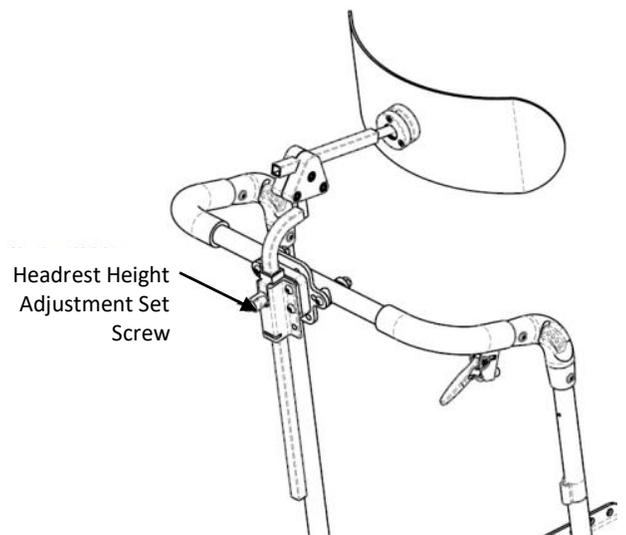

Figure 15.48: Headrest
1. Loosen the "Headrest Height Adjustment Set Screw" and slide the head rest assembly upwards until it is free of the chair (see Figure 15.48).